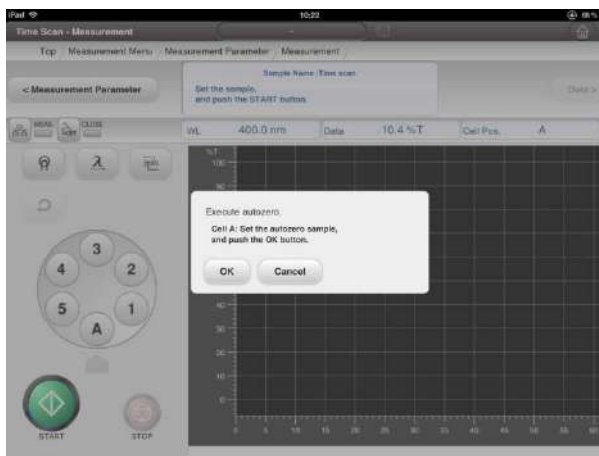

Fig. 4-151 Autozero Execution Window
- (1) Guidance, "Autozero will be conducted," will be shown (Fig. 4-151). Put a standard for autozero at Cell A and press OK button. When an autozero has already been conducted, press Cancel and move to the sample measurement window.